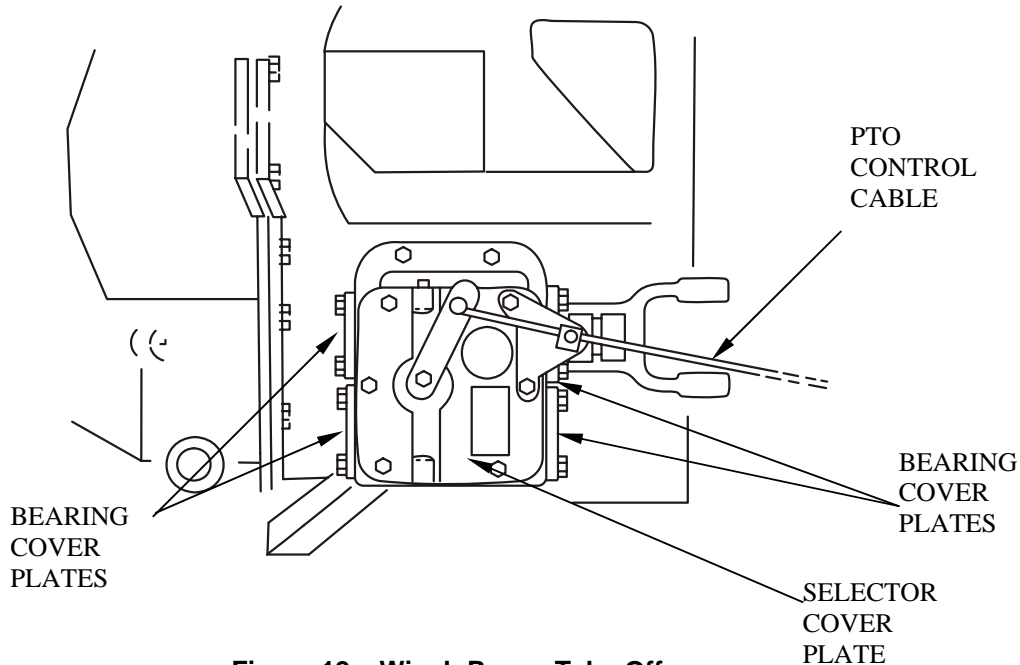

Figure 12 Winch Power Take-Off
- c. Disconnect the PTO cable from the control lever on the PTO and remove the cable from the mounting bracket (refer to Figure 12). Disconnect the propeller shaft from the PTO and move the shaft to one side.